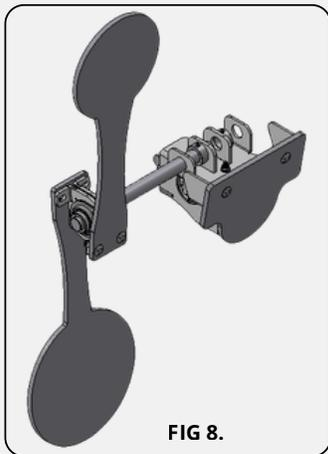

FIG 8.
- Slide one completed target assembly onto each end of the protruding shafts. Position them so the larger target is on the bottom and toward the back. As shown in FIG 8.